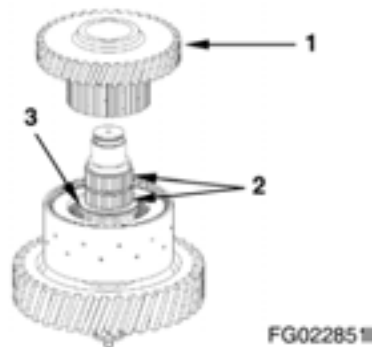

Figure 174
4. Take off idler gear (1, Figure 174), remove needle cage (2, Figure 174) and axial bearing assembly (3, Figure 174).